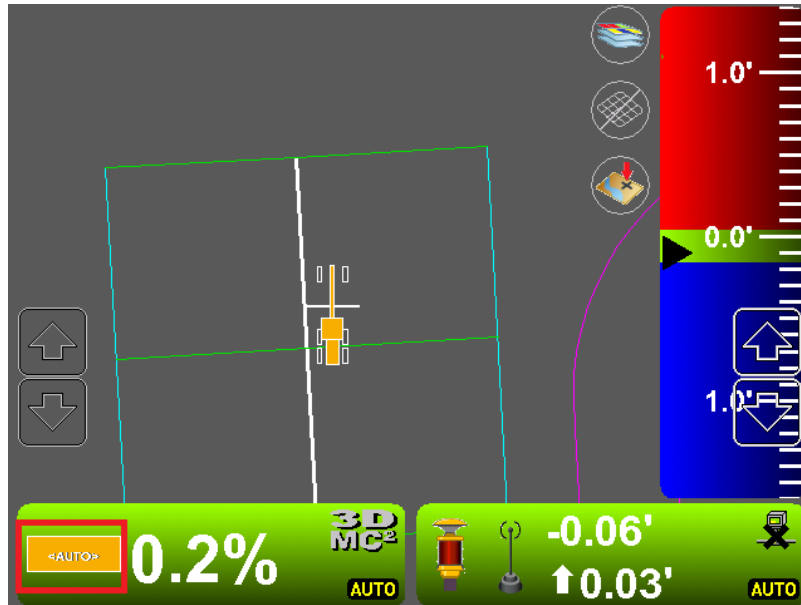

Figure 127: Side Shift Auto Enabled
3. When **Side Shift Auto** is enabled, a blade icon and **Auto** display on the Slope Control Button (Figure 127).